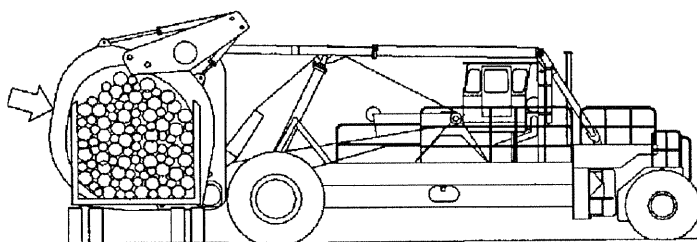

Fig 4-4
4. Securely clamp both holddown arms before the binder chains are removed. See Fig. 4-4.